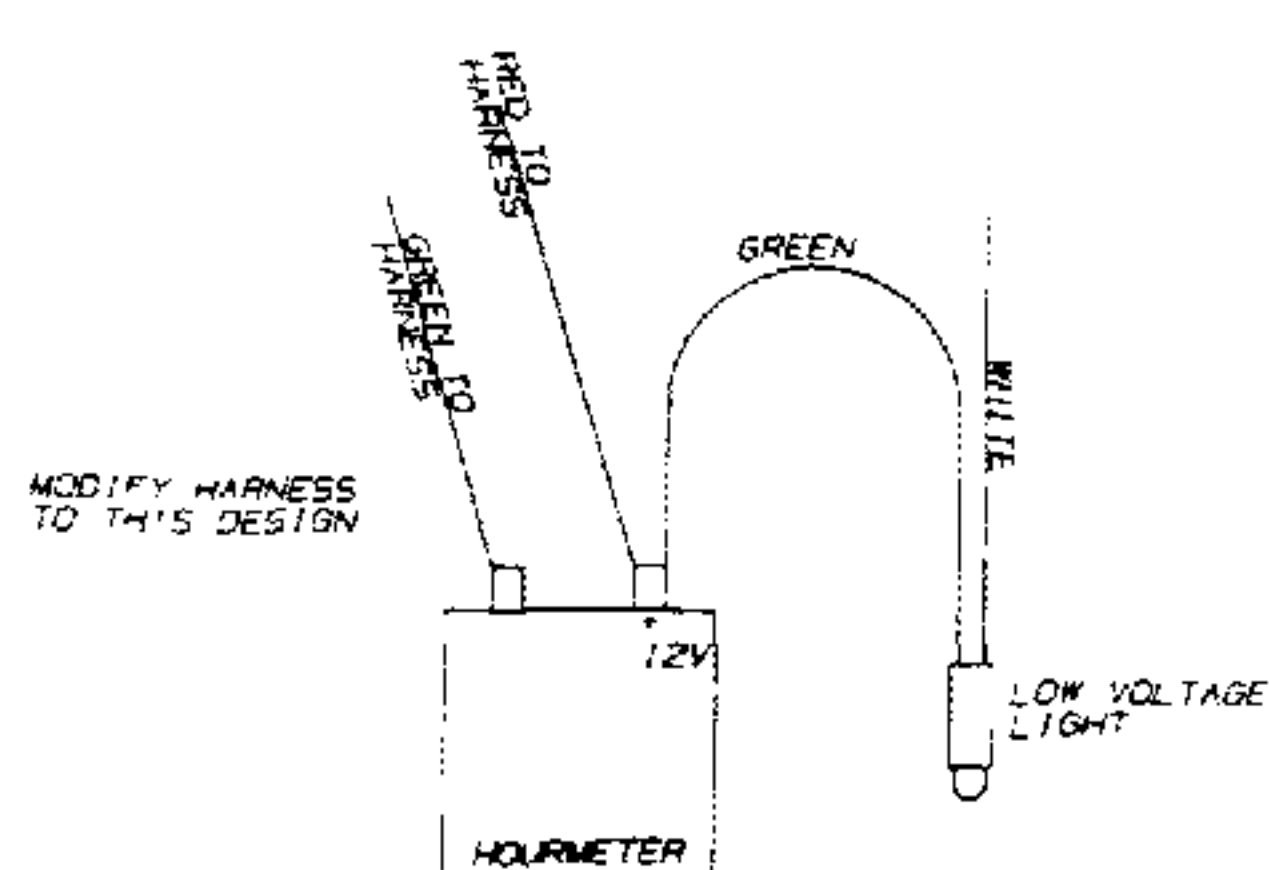

Fig. 2
- 4) Connect the red and green wires together into one new terminal end and securely clamp together with wire harness pliers. (See fig. 2).